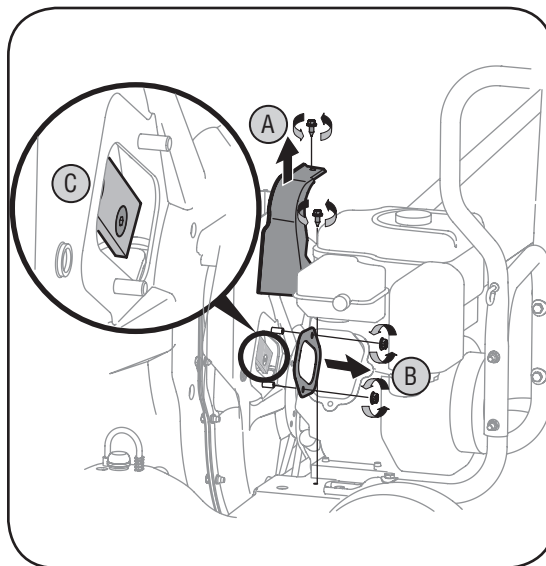

Figure 5-5
- a. Remove plastic belt cover from front of the engine by removing the two self-tapping screws. See Figure 5-5 on next page.
- c. Locate one of the chipper blades in the access opening by rotating the impeller assembly by hand. Remove the chipper blade using a 3/16" allen wrench and a 1/2" wrench. See Figure 5-5.